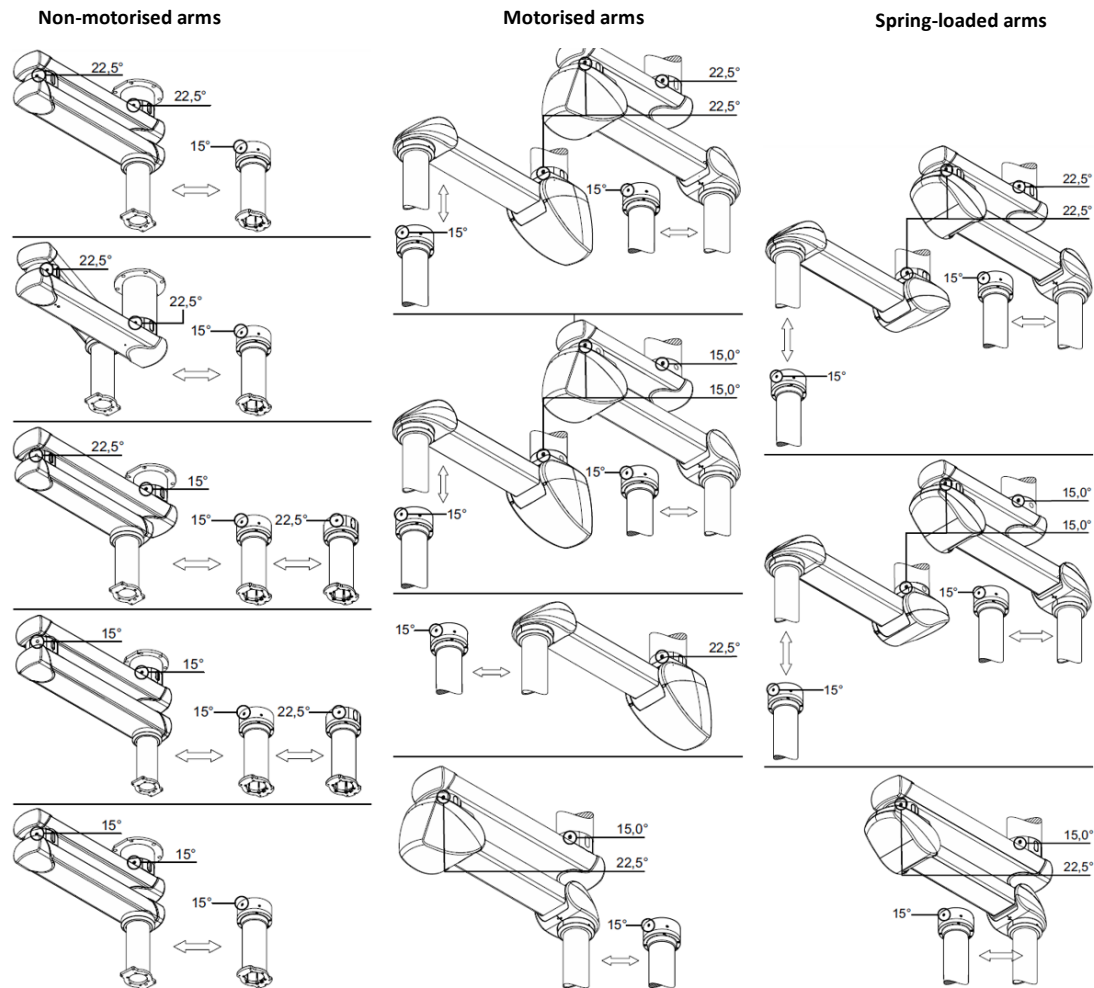

Fig.61 Adjustment of the rotary stops
- Loosen the M4 set screw ⑦ - DIN 914 using the Allen key.
- Place the spanner on the hexagonal bolt ⑤.
- The indicator screw ⑥ points downwards (do not loosen this screw).
- To lower the tray in the example shown in Fig. 61, turn the hexagonal bolt ⑤ so that the indicator screw ⑥ points forwards (towards you). See Fig. 61 Detail view, bottom right.
- To lift the tray in the example shown in Fig. 61 turn the hexagonal bolt ⑤ so that the indicator screw ⑥ points backwards (away from you). See Fig. 61 Detail view, bottom right.
- Tighten the M4 grub screw ⑦ - DIN 914.